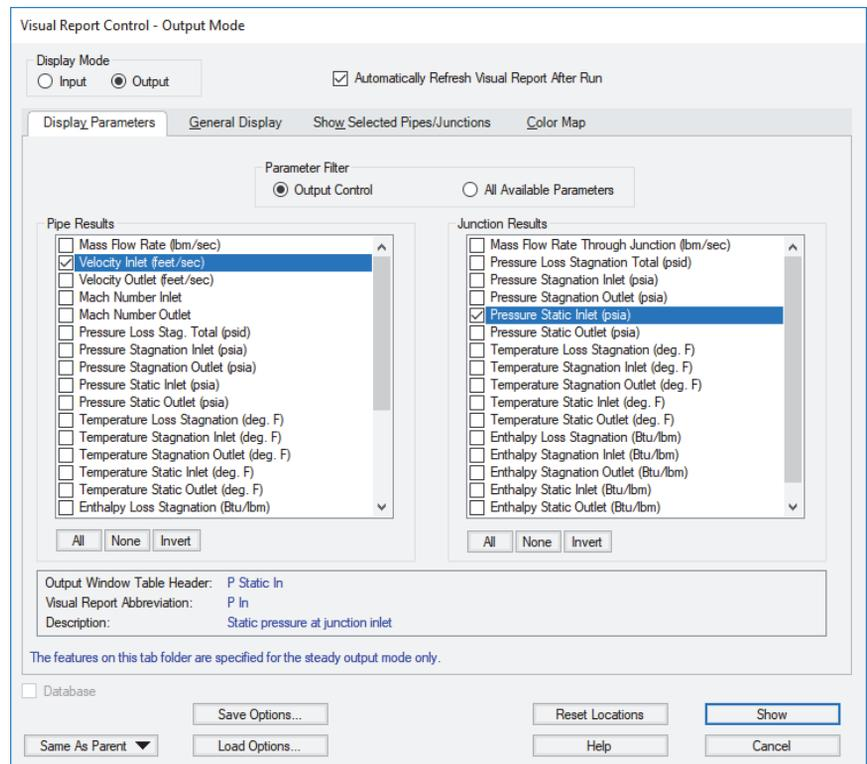
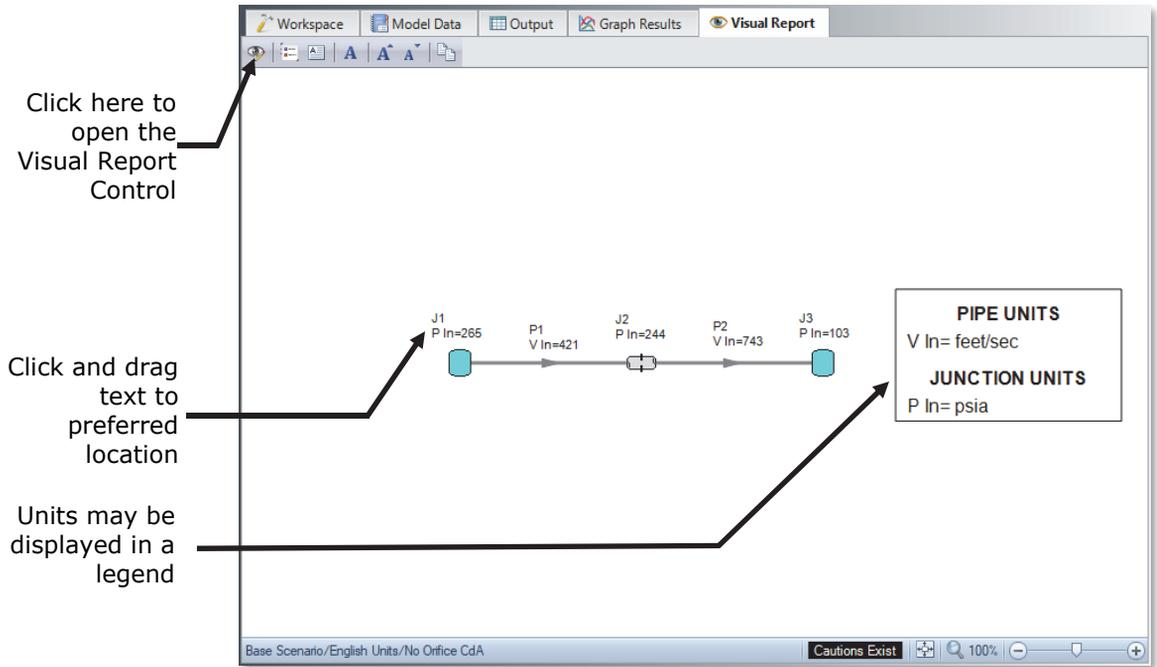

Figure 2.19 The Visual Report Control window selects content for the Visual Report window
Figure 2.20 The Visual Report integrates results with model layout
- Click the **Visual Report Control** button on the **Visual Report Toolbar** (or Tools menu) and open the Visual Report Control window, shown in Figure 2.19. Select **Velocity Inlet** in the **Pipe Results** area and **Pressure Static Inlet** in the **Junction Results** area. Click the **Show** button. The Visual Report window graphic is generated (see Figure 2.20).
It is common for the text in the Visual Report window to overlap when first generated. You can change this by selecting smaller fonts or by dragging the text to a new area. You can also use the Visual Report Control window to display units in a legend to increase the clarity of the display. These adjustments have already been done in Figure 2.20. This window can be printed or copied to the clipboard for import into other Windows graphics programs, saved to a file, or printed to an Adobe PDF file.